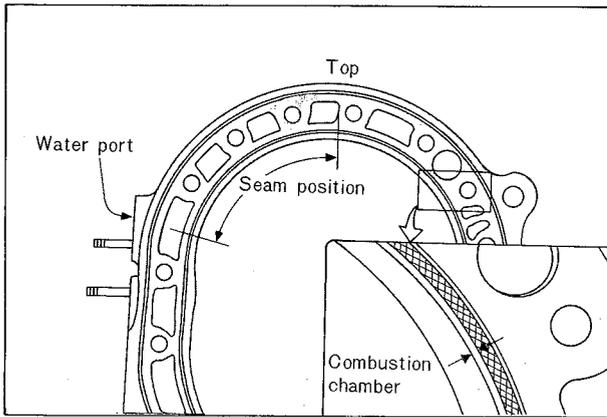

Fig. 1-62 Positioning inner sealing rubber
1) The wider white line of the inner sealing rubber should face to combustion chamber and the seam of the sealing rubber should be placed at the position as shown in Fig. 1-62.